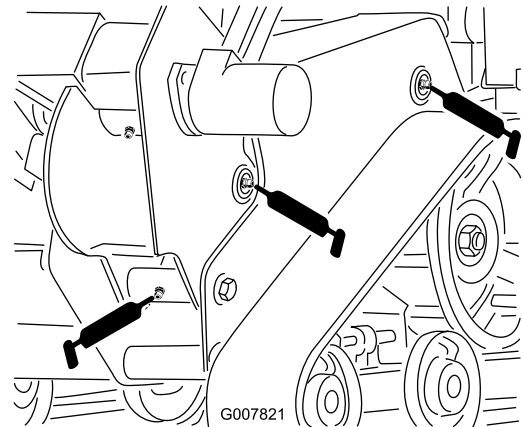
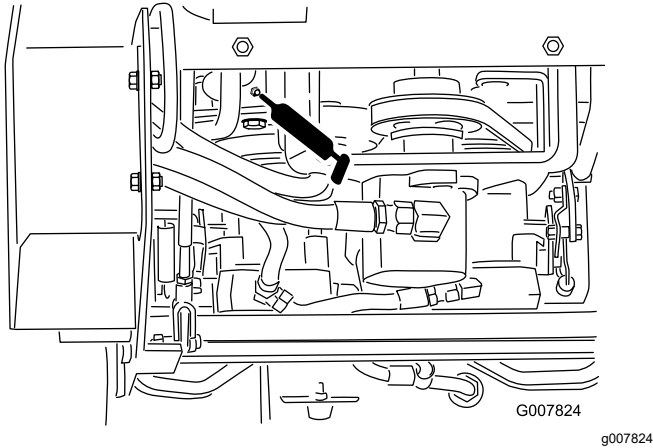

Figure 23
Figure 26
4. Connect a grease gun to each fitting (Figure 23 through Figure 26).